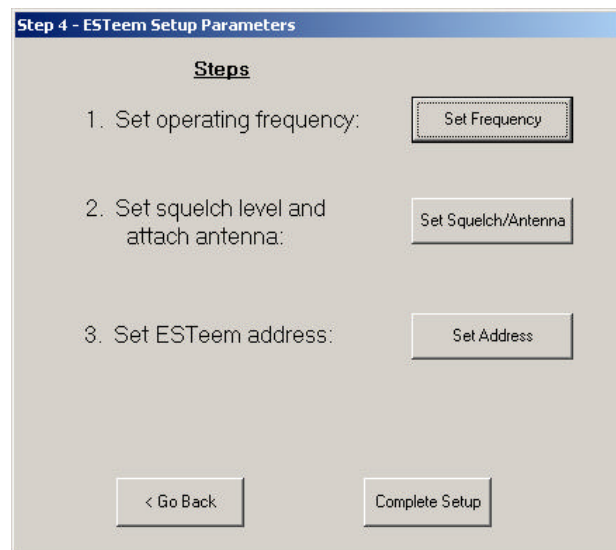

Figure 9: Step 4 – ESTeem Setup Parameters
10. Step 4 – ESTeem Setup Parameters window will be displayed (Figure 9). This step will complete the setup for your ESTeem Model 192.